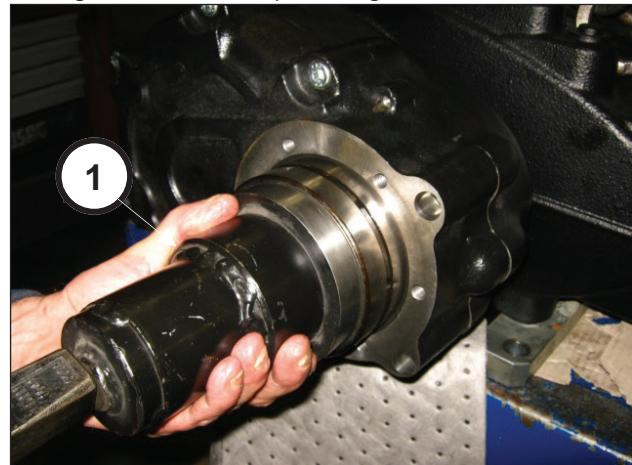
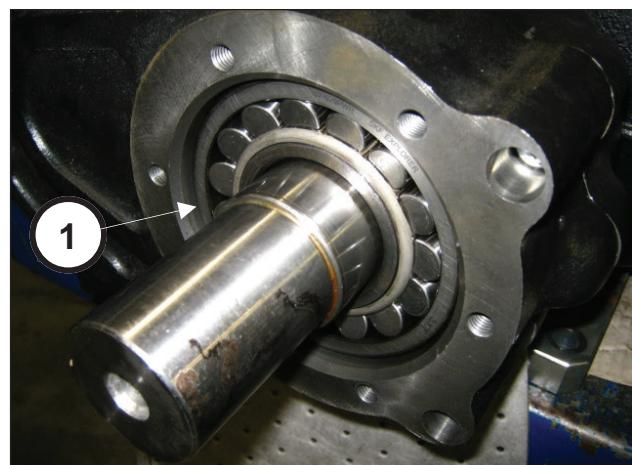

Fig. 75
Fig. 76
Using the tool code 27887000 (pos. ①, Fig. 75) move the bearing to the end stroke (pos. ①, Fig. 76).